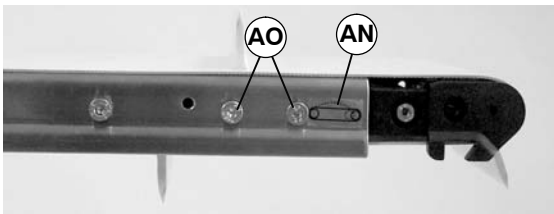

Figure 21
- On tension end of the conveyor identified with a  label (AN of Figures 21 and 22), loosen four M6 socket head cap screws (AO).
4. On tension end of the conveyor identified with a  label (AN of Figures 21 and 22), loosen four M6 socket head cap screws (AO).
1. On tension end of the conveyor identified with a  label (AN of Figures 21 and 22), loosen four M6 low head screws (AO).
3. Tighten four M6 low head screws (AO of Figures 21, 22 and 29) to 40 in-lb (4.5 Nm) to secure idler spindle assembly (AP).